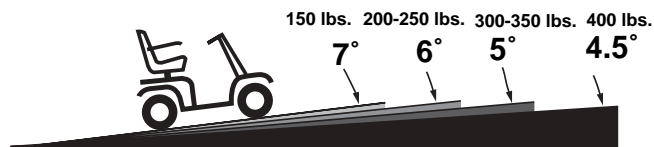

FIGURE 1. MAXIMUM RECOMMENDED INCLINE FOR THE 3-WHEEL MAXIMA
Other inclines may be natural or, if man-made, not designed specifically for scooters. Figures 1 and 2 illustrate your scooter's stability and its ability to climb grades under various weight loads and under controlled testing conditions.
**WARNING! Any attempt to climb or descend slopes steeper than shown in figures 1 and 2 may put your scooter in an unstable position and cause it to tip, resulting in personal injury.**